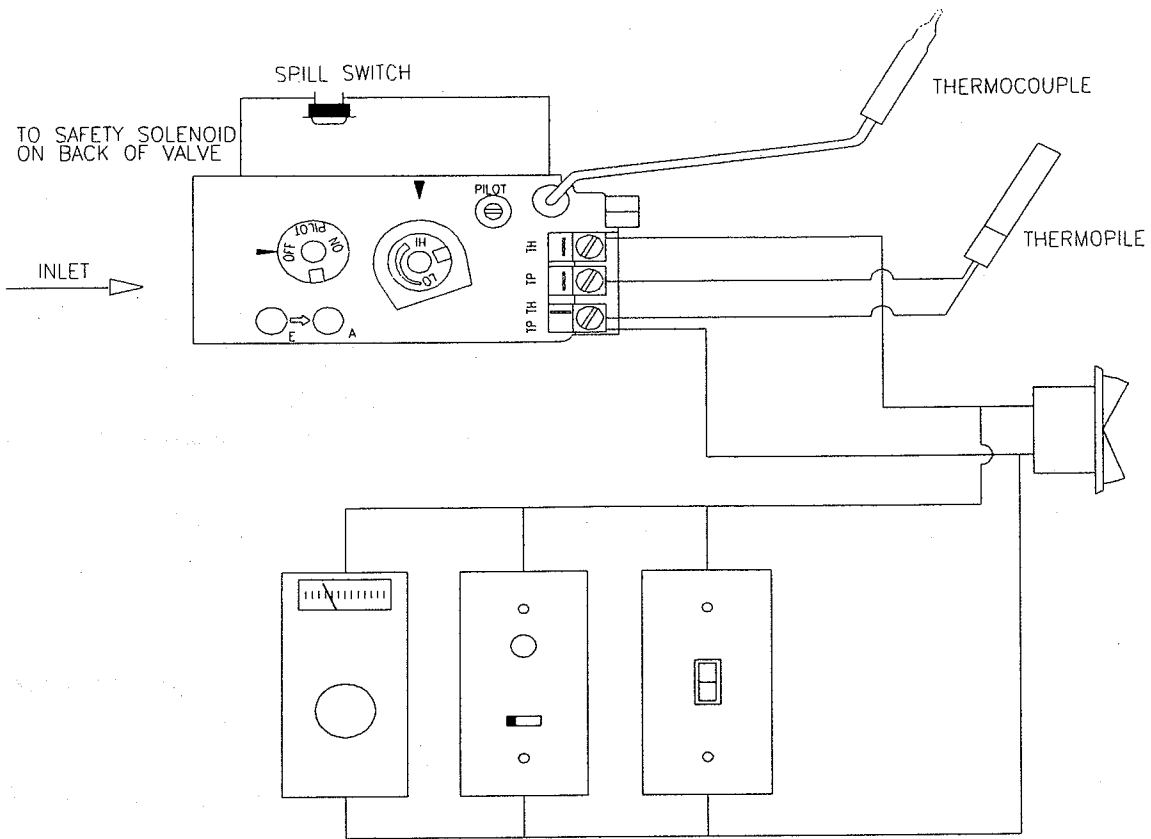

Figure 10
- 2a. After the insert is installed and the gas line hooked up, solder a female spade connector to each wire and join them to the male connectors provided on the rear of the burner switch (see Figure 10), or